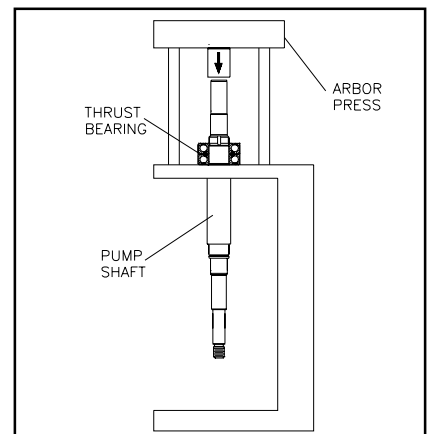

Figure 9: The thrust bearing must carefully be removed from the pump shaft.
Stand the pump shaft on end (impeller end down) and slowly heat the inner race of the radial bearing with the flame torch until it drops off the pump shaft. Loosen the bearing lock nut (31) with the spanner wrench. Remove the bearing lock nut and lock nut washer (30) from the pump shaft. Press the thrust bearings (29) off the pump shaft using caution to prevent damaging the pump shaft in the process (Figure 9). Remove the radial bearing from the bearing block.